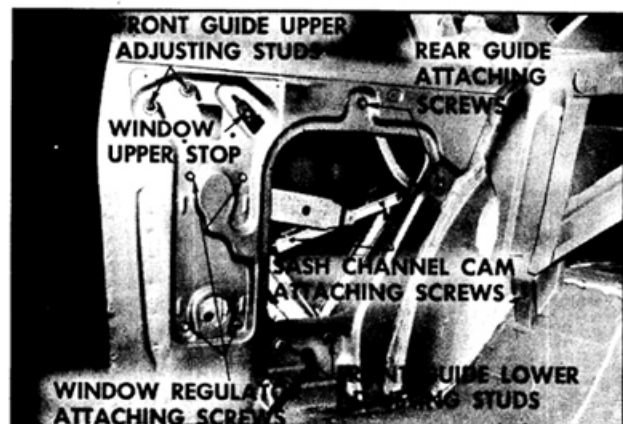

Fig. 16-363 Rear Quarter Window (37 Style)
1. Remove rear seat cushion and seat back assemblies. Remove screws securing seat back filler panel to quarter inner panel and remove filler panel. (Fig. 16-363)
2. Grasp trim assembly at lower forward edge and carefully pull inboard to disengage clips along forward edge of trim assembly from sealing plugs in inner panel. (View "B", Fig. 16-363)
2. Remove rear guide attaching screws. (Fig. 16-363) Disengage guide from roller on window lower sash channel and remove rear guide.
3. Loosen front guide upper and lower adjusting stud and nuts. (Fig. 16-363) Disengage side roof rail weatherstrip from weatherstrip retainer above quarter window.
4. With window almost fully lowered, remove lower sash channel cam attaching screws. (Fig. 16-363) Disengage cam from regulator arm roller and remove cam.
2. With window in half-down position, remove rear guide attaching screws. (Fig. 16-363) Disengage guide from roller on window lower sash channel and remove guide.
2. Remove front guide upper and lower adjusting stud nuts. (Fig. 16-363) Rotate guide forward (clockwise - left side, counterclockwise - right side) so that lower end of guide is above wheelhouse and upper end of guide can be started out access hole, then remove guide.
4. Remove window regulator attaching screws (Fig. 16-363) and remove regulator through large access hole.
1. To adjust window fore or aft, loosen front and rear guide adjusting stud nuts and attaching screws. (Fig. 16-363) Position window and guides as required, then tighten loosened nuts and screws.
3. To adjust top of window in or out, loosen front guide lower adjusting stud nuts. (Fig. 16-363) Adjust studs in or out as required, then tighten stud nuts.
5. To limit forward and upward travel of window, adjust window upper stop as required. (Fig. 16-363)